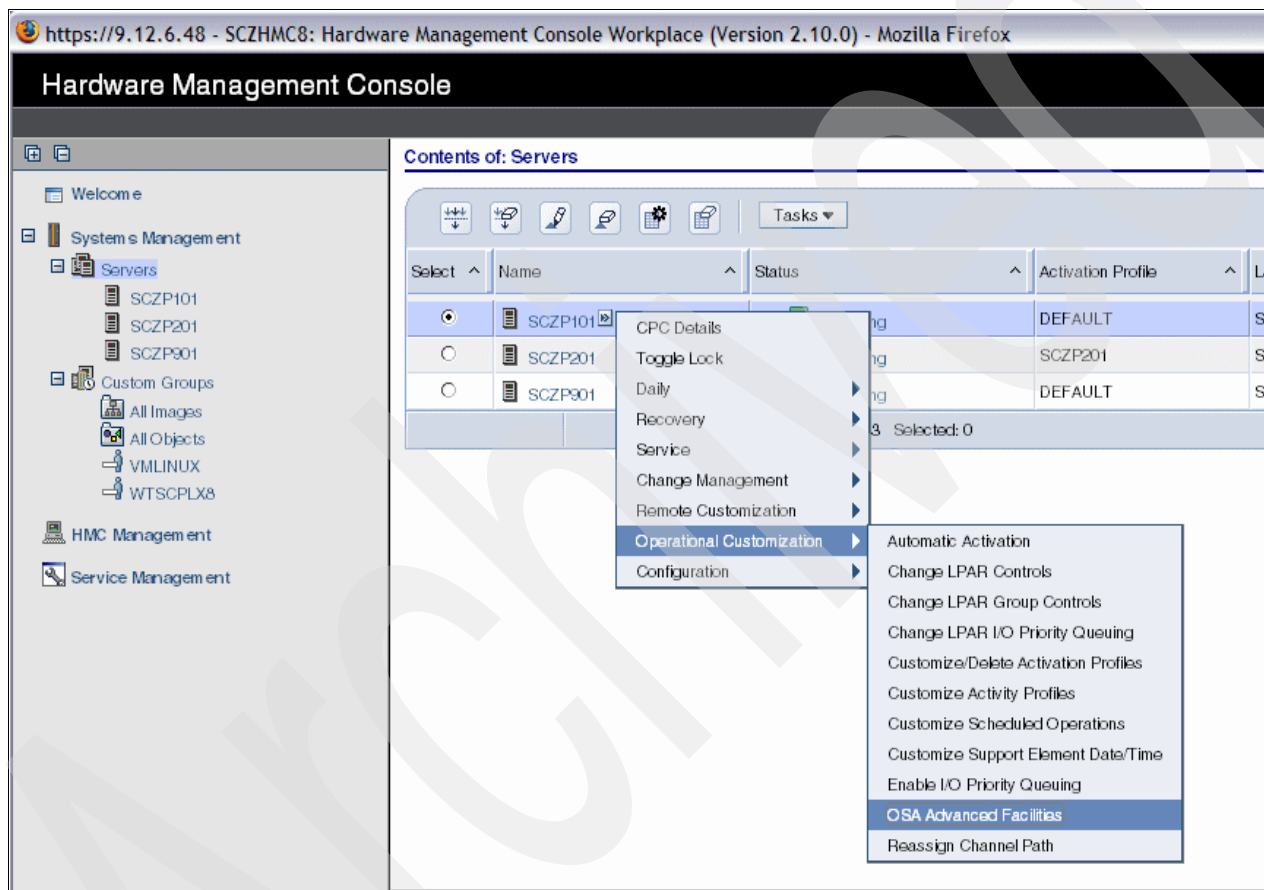

Figure 3-36 HMC - OSA Advanced Facilities (Pop-up Menu)
- b. Click the small pop-up menu arrow just after the CPC name and use this to expand to and select the **OSA Advanced Facilities** menu (Figure 3-36).